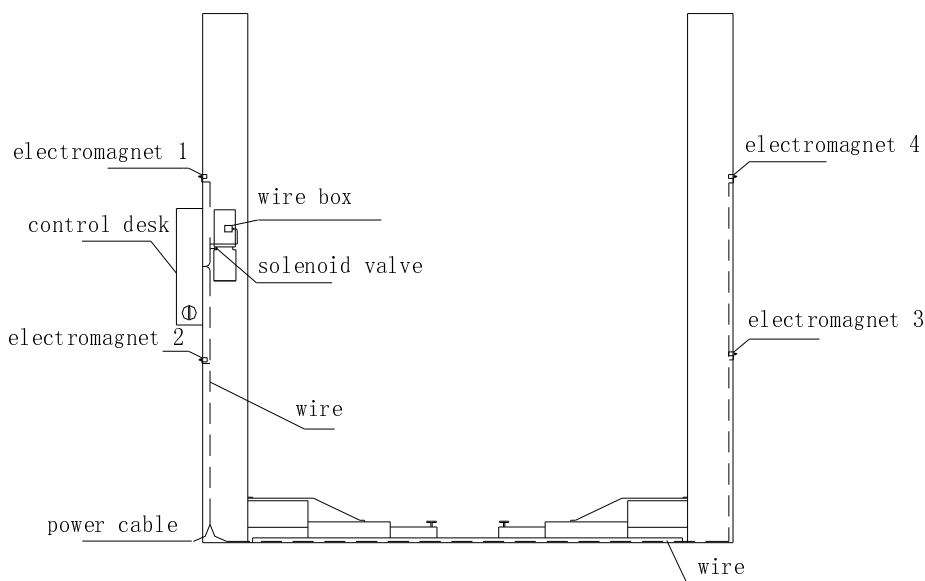

Fig. 12
- Connect the electrical wiring as shown in Fig. 12.